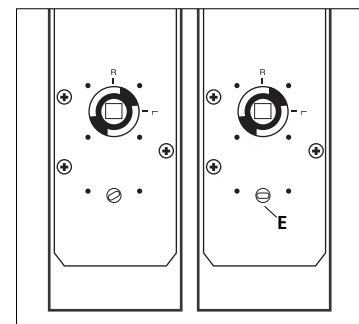

Figure 18
- 1) Remove the access plate (A). The screw is located underneath the warning sticker.
- 3) Remove the silver colored spacer (B).
- 5) Reposition the coil spring (C) (the tip of the coil spring must be down) and the hand siding pin (D) for the new handing of the lock, as shown. Before changing the hand siding pin make sure that the override cam (E) (see Figure 18) is turned completely clockwise, and that the spindle is straight. After changing the pin turn the override cam counter clockwise back to its original position.